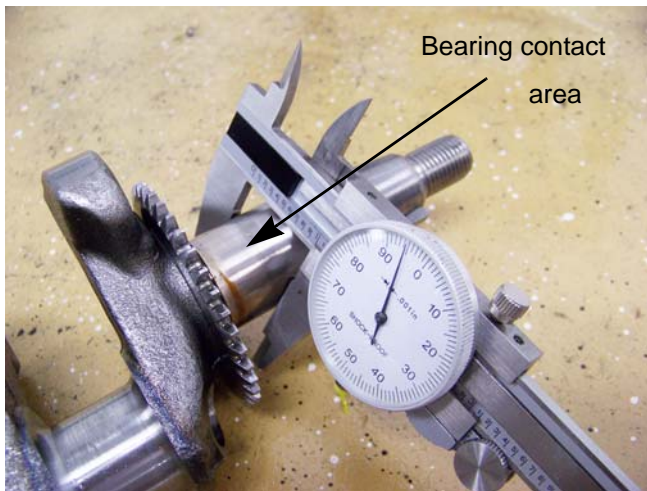

Figure 10.7
2. Measure the journals at the bearing contact points using a vernier caliper or a micrometer. See Figure 10.7.